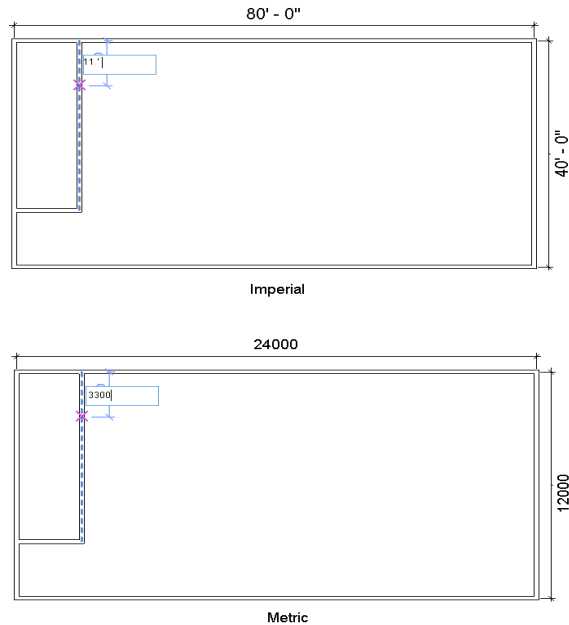

Figure 3-67 Specifying the starting point of second interior wall segment
3. To sketch the second interior wall, move the cursor to the upper endpoint of the interior wall you just created and then move the cursor vertically downward. Enter **11'0"** for Imperial or **33000 mm** for Metric when the temporary dimension and the intersection object snap appear, as shown in Figure 3-67.